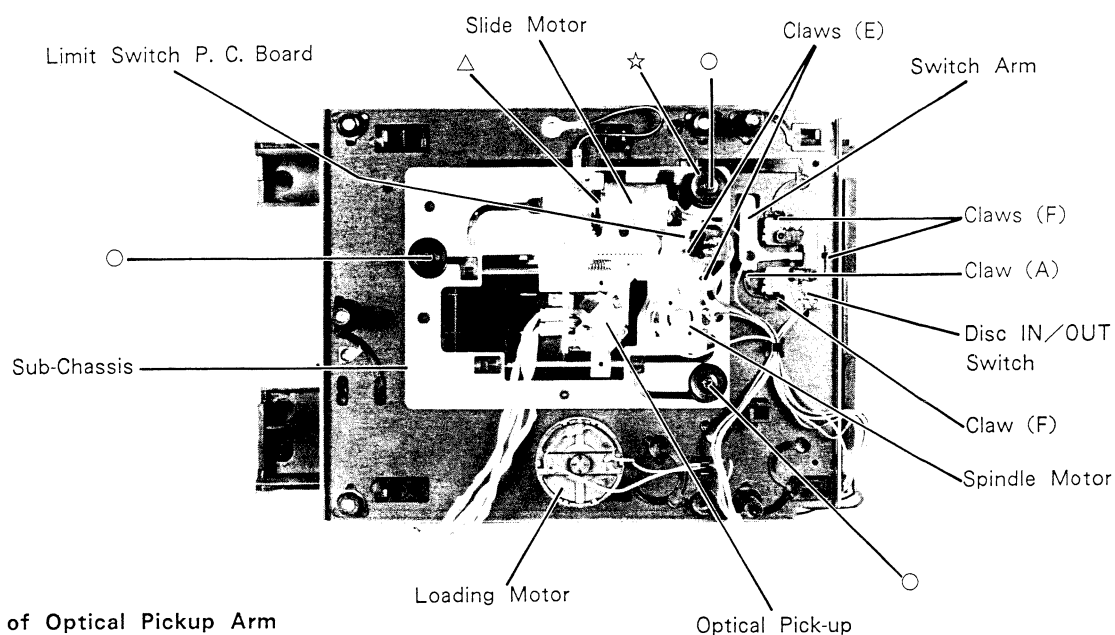

Figure 8
- (2) After disengaging one claw (A), remove the switch arm as shown in Figure 8.
- (1) After removing three screws marked "O", remove the sub-chassis as shown in Figure 8.
- (1) Remove one screw marked "△" and lift up the motor as shown in Figure 8.
- (1) Remove two claws marked "E" as shown in Figure 8.
- (1) Remove three claws marked "F" as shown in Figure 8.